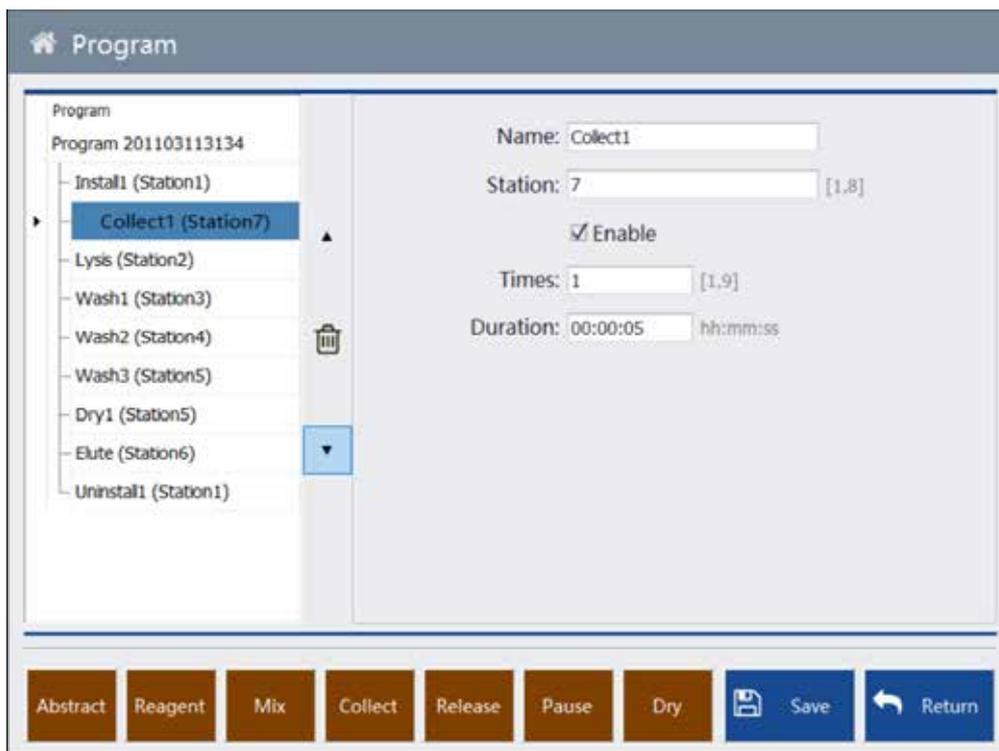

Figure 4-9 Collect
**Collect:** This function is mainly to collect the magnetic beads in kit, including the location, times, and set duration of stay. As shown in Figure 4-9.